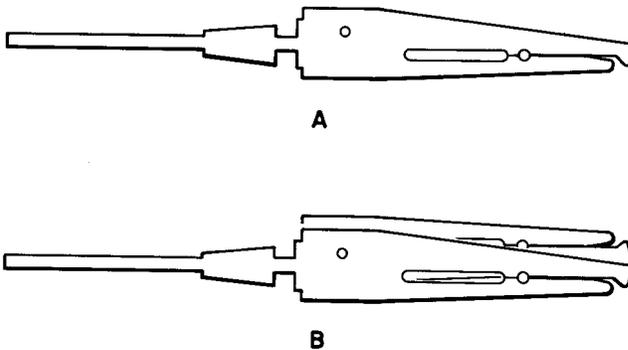

Fig. 1 — Replacement Terminals
1.02 The procedures apply to 66-type connecting blocks arranged with single or twin clip terminals. The single-clip terminal used on the 66G-type connecting block is illustrated in A, Figure 1. The twin-clip terminal used on the 66H-type connecting block is illustrated in B, Figure 1.
- (a) Select the proper replacement terminal (Fig. 1).